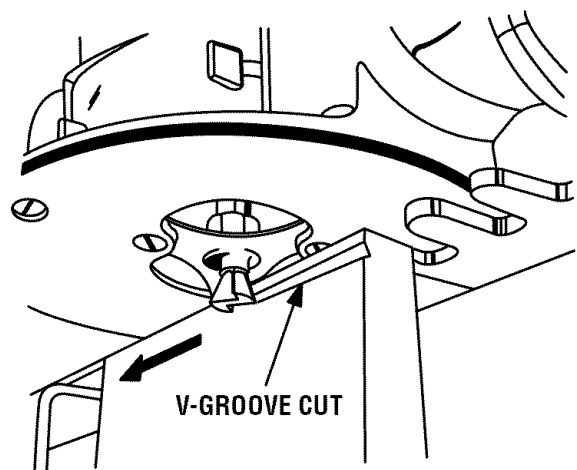

Fig. 35
- Place the router so that the subbase is resting flat on the dovetail template. Make sure the cutter is not making contact with the edge of board (A), then turn the router on and let the motor build to its full speed.
- Make a straight cut from **RIGHT TO LEFT** across board (A). See Figure 35. This shallow V-groove cut is made to prevent chipping of the wood when the router is moved in and out of the fingers of the dovetail template.